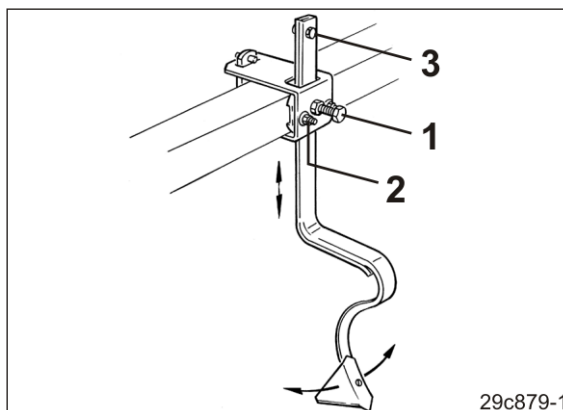

Fig. 185
- 1.1 Loosen the lock nut and the hexagonal bolt (Fig. 185/1).
- 1.3 Loosen two nut (Fig. 185/2) and swivel the tractor wheel mark eradicator.
The locking bolt (Fig. 185/3) prevents the wheel mark eradicator from being lost if the retaining screws were to come undone.